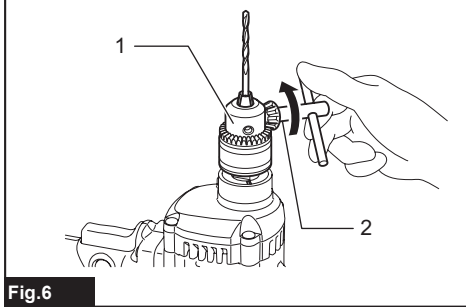

Fig.6
► Fig.6: 1. Drill chuck 2. Chuck key